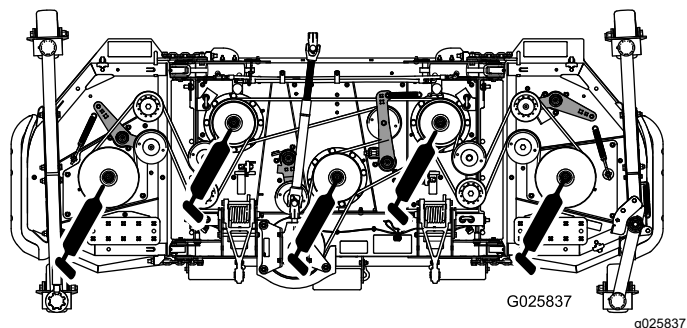

Figure 23
- Spindle shaft bearings (5) (Figure 23)